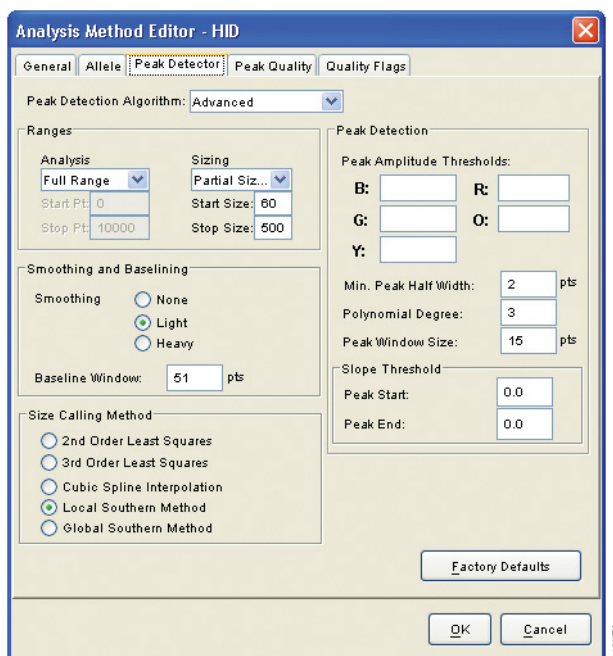

Figure 20. The GeneMapper® ID Software, Version 3.2, Peak Detector tab
10. Select the Peak Detector tab (Figure 20). You may need to optimize these settings. In-house validation should be performed.
10. Select the Peak Detector tab. We recommend the settings shown in Figure 20.